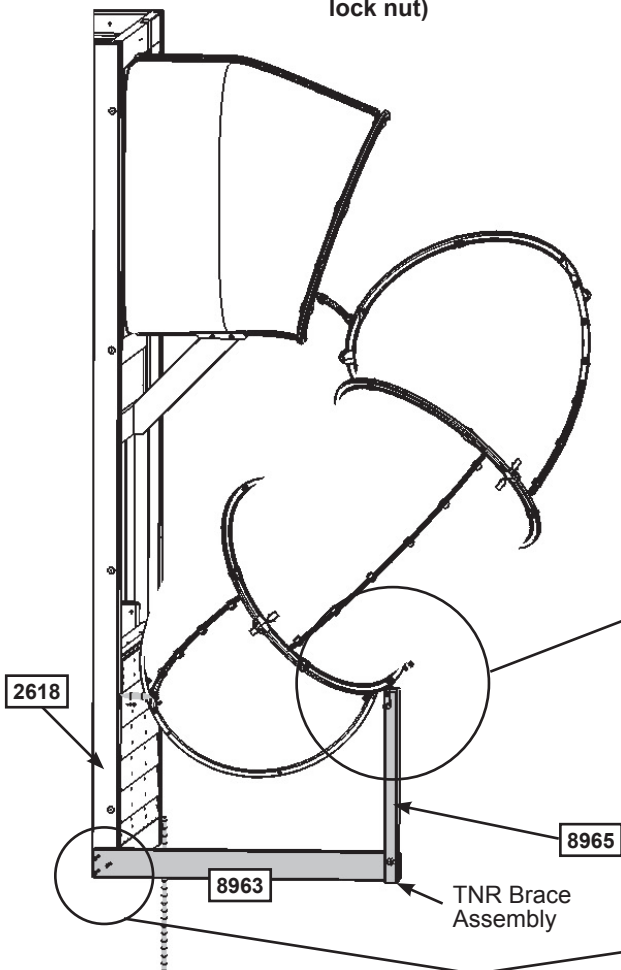

Fig. 33.2
- A:** Place 1 TNR4 Post Mount Clamp on either side of the Clamp Ring so that the bent tops clip in behind the Clamp Ring. (fig. 33.2)
- B:** Insert the TNR4 Post Mount Base in between the 2 Post Mount Clamps and screw all pieces together using 1 1/4 x 14.5mm Pan Head Bolt and Square Nylock Nut. (fig. 33.2)
- C:** Attach TNR4 Post Mount Base to (8965) TNR Upright, pre-drill with a 1/8" drill bit then attach with 2 (S6) #12 x 1" Pan Screws. (fig. 33.2)
- D:** Attach the Post Mount Clamp to the clamp ring using 1 (S37) #7 x 5/8" Pan Screw. (fig. 33.2)